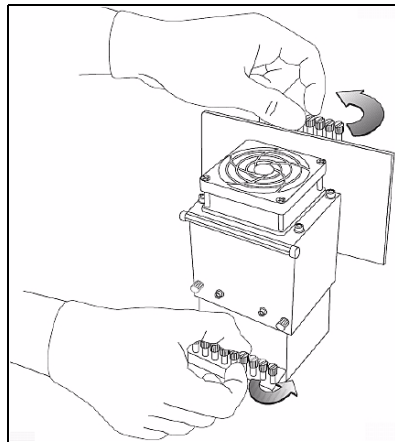

Figure 7-39: Releasing the locking screws
19. Tighten the upper and lower screws that secure the print head in the print block (see figure 7-39 on page 30).